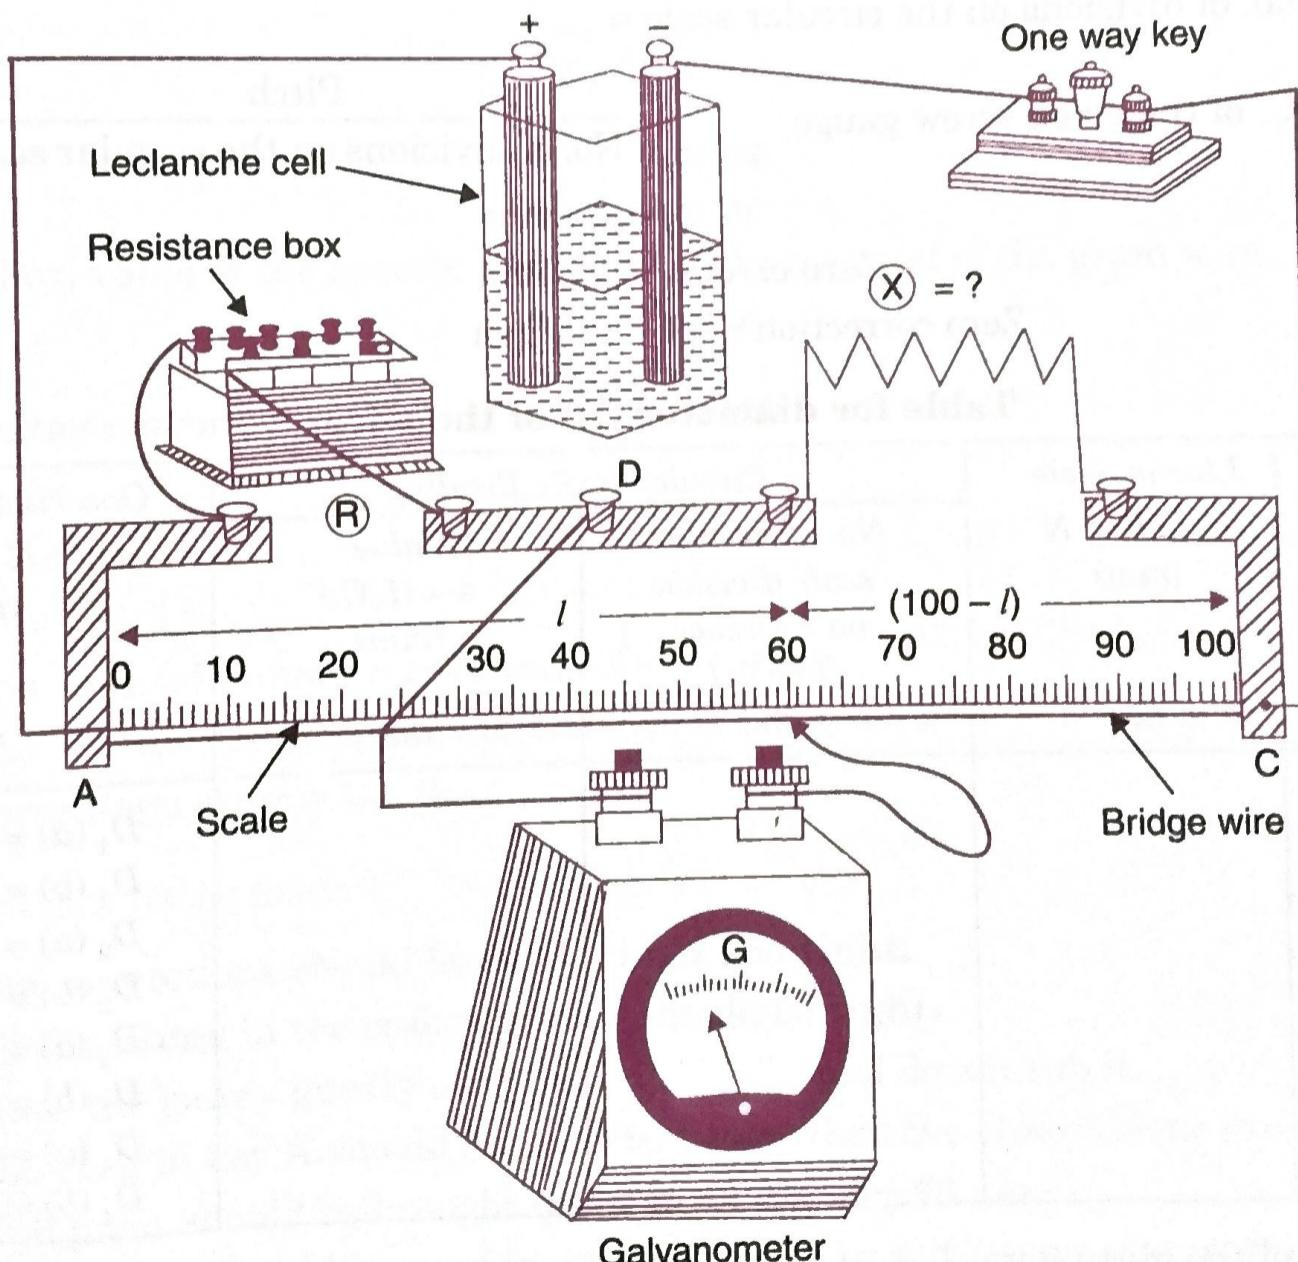

Fig. 3.08. Arrangement diagram.
1. Draw the circuit diagram as shown in Fig. 3.07 (b) and arrange the apparatus according to the arrangement diagram (Fig. 3.08).